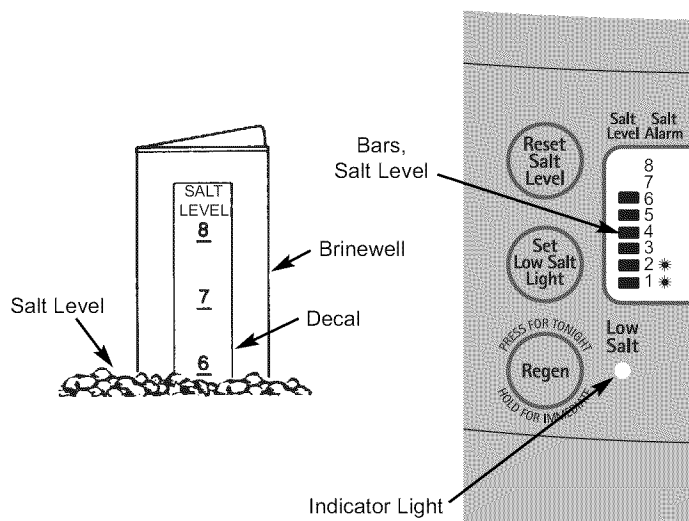

FIG. 33
2. The salt level decal, on the brinewell inside the tank, has numbers from 0 to 8 (see Fig. 33). Observe the number the leveled salt is at or closest to.